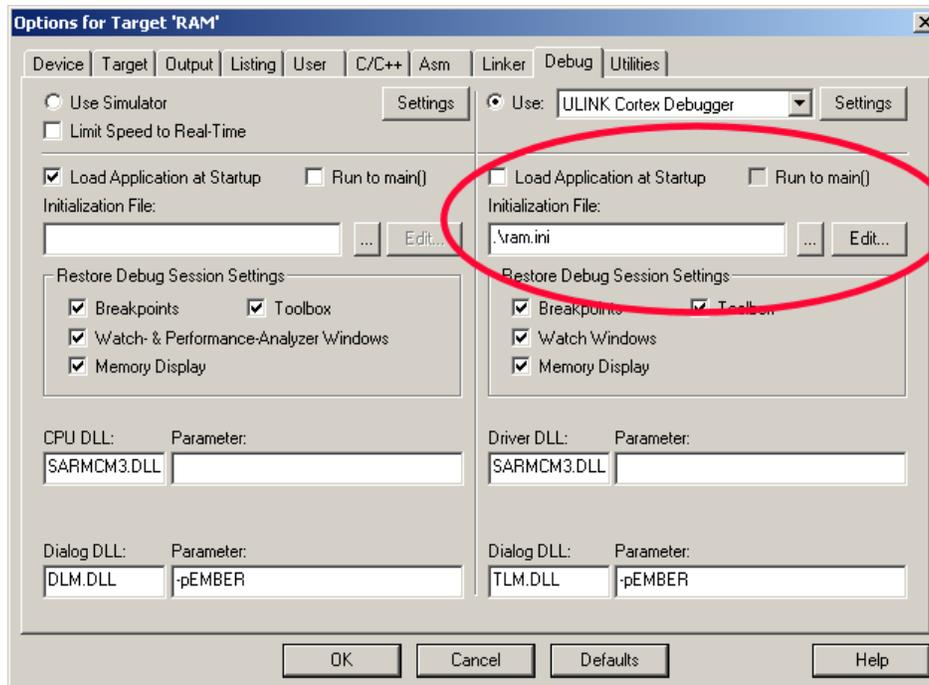

Figure 31: Selecting ram.ini
10. Open the Target Options menu.  The Target tab will be selected as in Figure 31.
14. Enter ROM Start 0x2000 0000 and size 0x8000 as shown in Figure 31. Enter RAM Start 0x2000_8000 and size 8000 as shown in Figure 31. Do not click on OK yet.